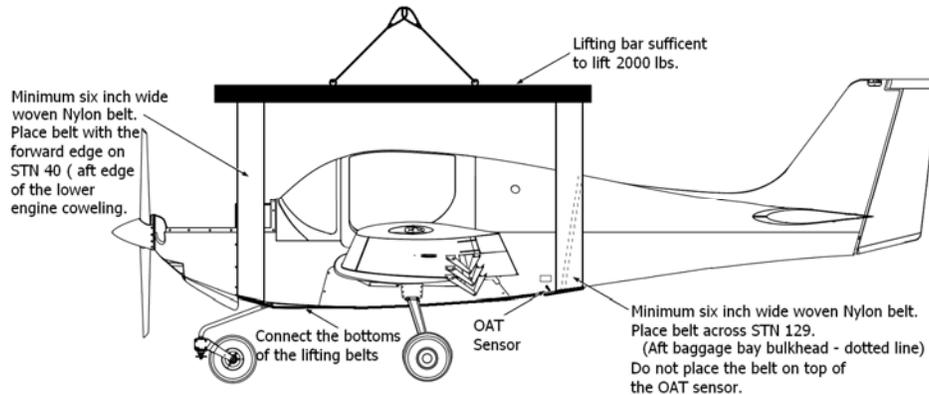

Figure 07-2 Location of the Straps to Lift the Airplane
2. The forward nylon wide-webbing strap is best placed by looping it around the lower fuselage and securing it at the top, with the front edge of the strap at Station 40. The location of Station 40 is along the aft edge of the lower engine cowling. See Figure 07-2.
3. The aft strap is placed around the fuselage with the center of the strap across Station 129. This will align the strap across the bulkhead at the rear of the baggage compartment. See Figure 07-2.
Check the nylon strap placed around the fuselage does not lay across either the OAT probe, belly antenna, or front landing gear assembly. Tie both sides of the bottom lifting strap to the main landing gear legs, as shown in Figure 07-2.